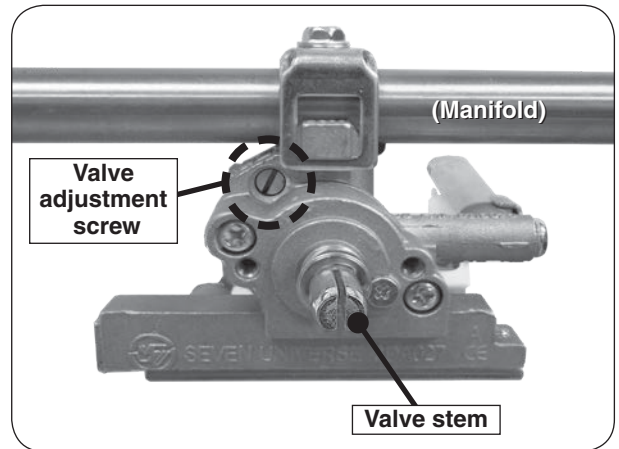

Fig. 32-1 Valve adjustment screw location
5. Locate the FLATHEAD adjustment screw found above the valve stem and below the manifold (see Fig. 32-1).